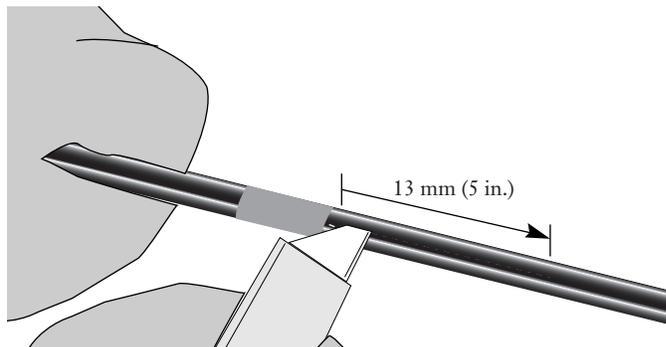

Figure 9
6.1 Use utility knife with a new blade to carefully cut a 13 cm (5.0 in.) length of the web that joins the messenger and the jacketed buffer tube sections of the cable (Figure 9).